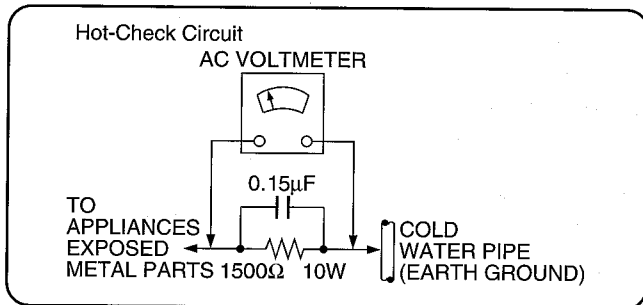

Figure 1
LEAKAGE CURRENT HOT CHECK (See Figure 1.)
2. Connect a $1.5k\Omega$, $10W$ resistor, in parallel with a $0.15\mu F$ capacitor, between each exposed metallic part on the set and a good earth ground such as a water pipe, as shown in Figure 1.